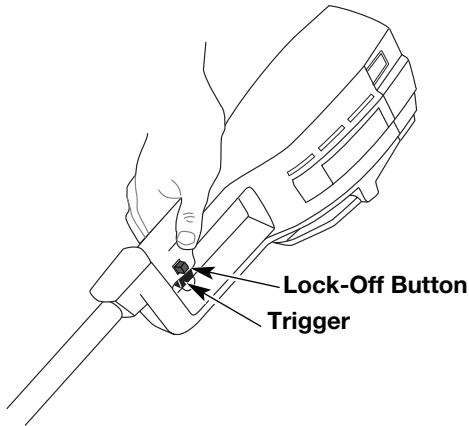

Fig. 6
1. Press and hold the lock-off button in (Fig. 6). This allows the trigger to operate.